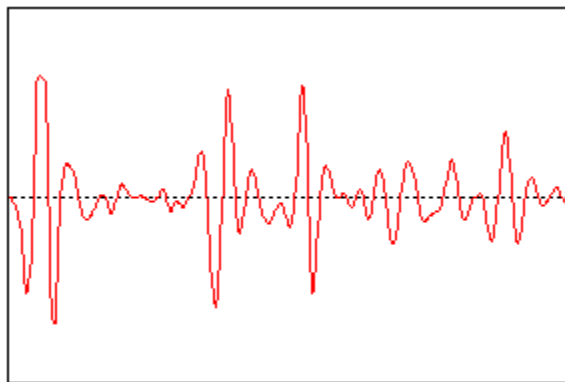
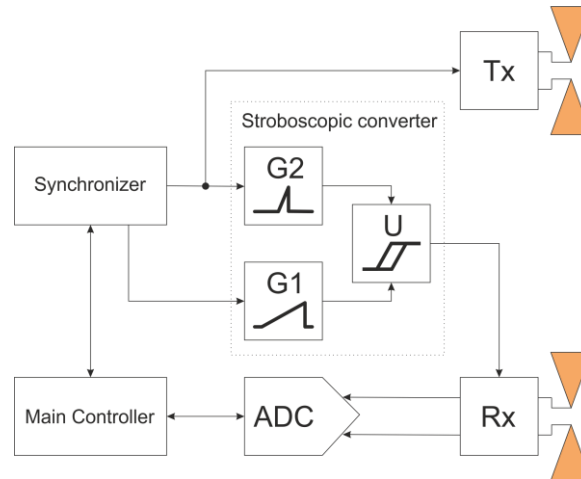

Fig. 2.3. Received signal example
Fig. 2.4. Block diagram of the georadar of “Zond-12e” and “Python-3” GPR families based on the stroboscopic method
The process shown in Fig. 2.3 is very fast and takes units or hundreds of nanoseconds and is technically difficult to process. One of the first solutions was the use of the stroboscopic method of signal digitizing (Fig. 2.4.), as in the “**Zond-12e**” and “**Python-3**” GPR families. The stroboscopic method is based on the thesis that the GPR and its antenna are in the same place for a relatively ultra-short millisecond time interval.
- **Trace** – a set of samples containing one-dimensional information about the reflected signals. Examples of traces are shown in Fig. 2.3 and 4.1.